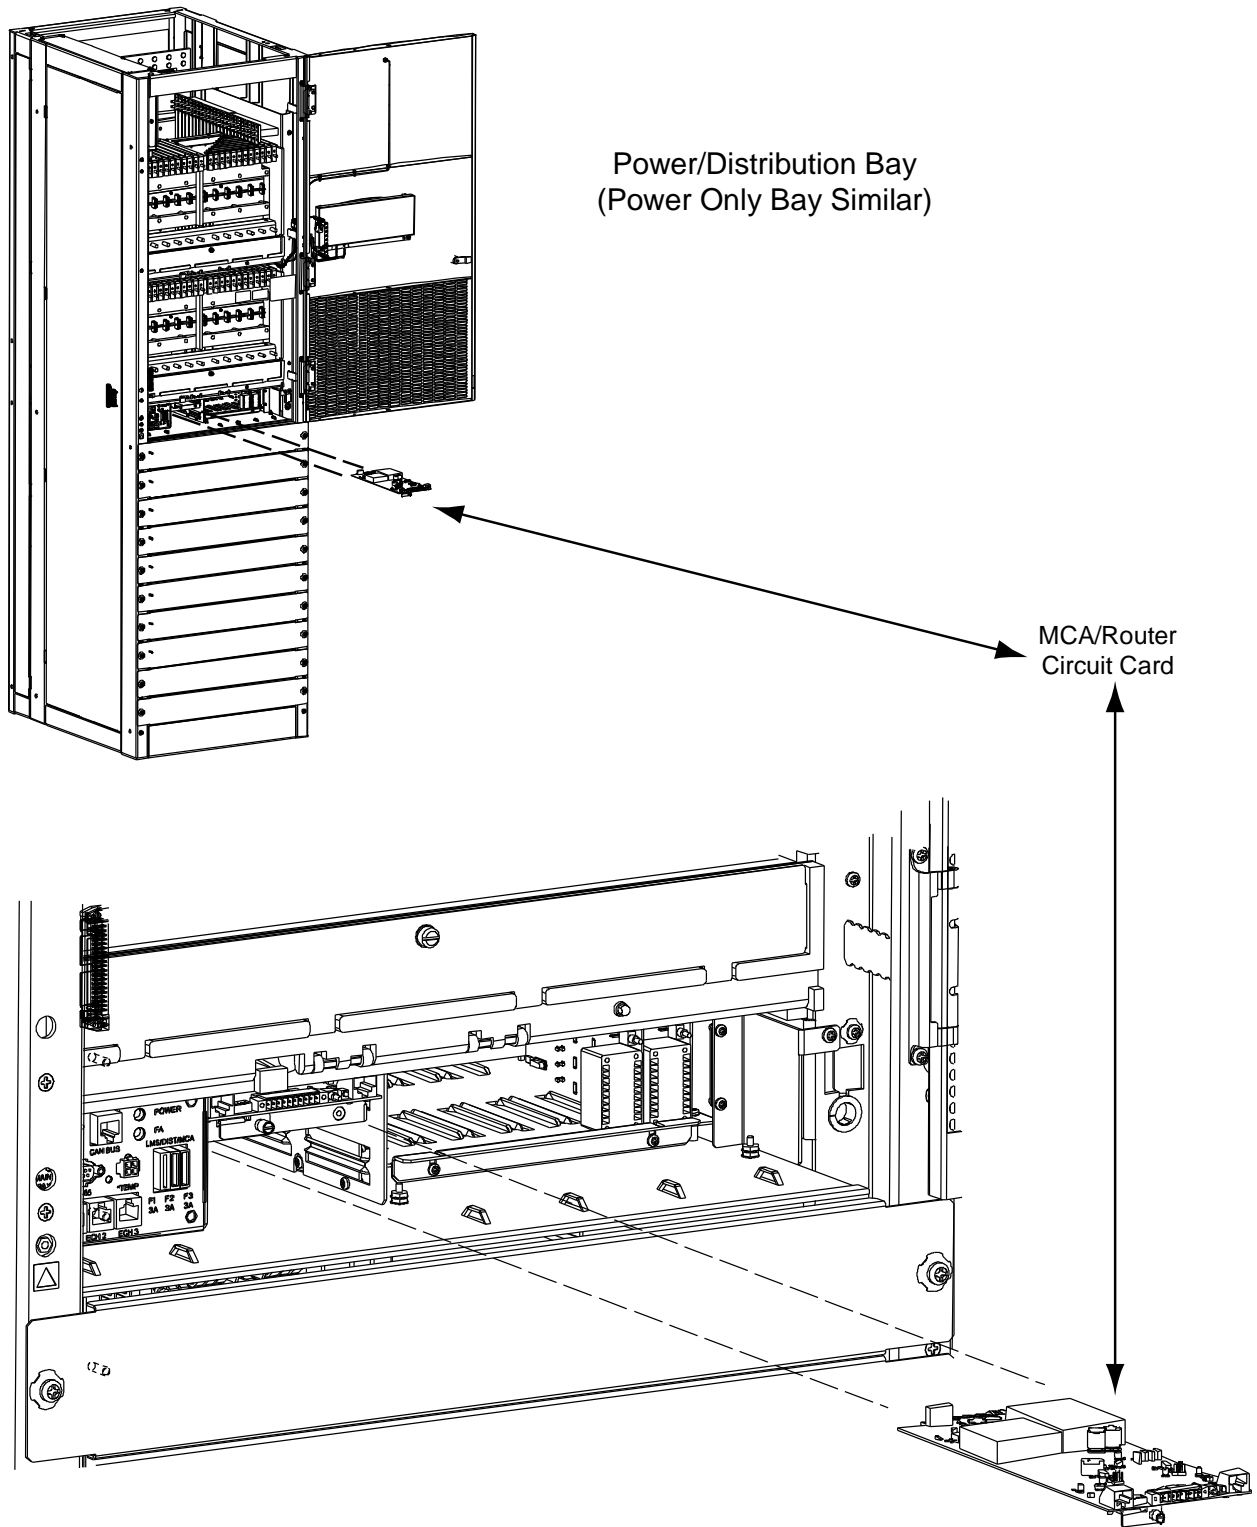
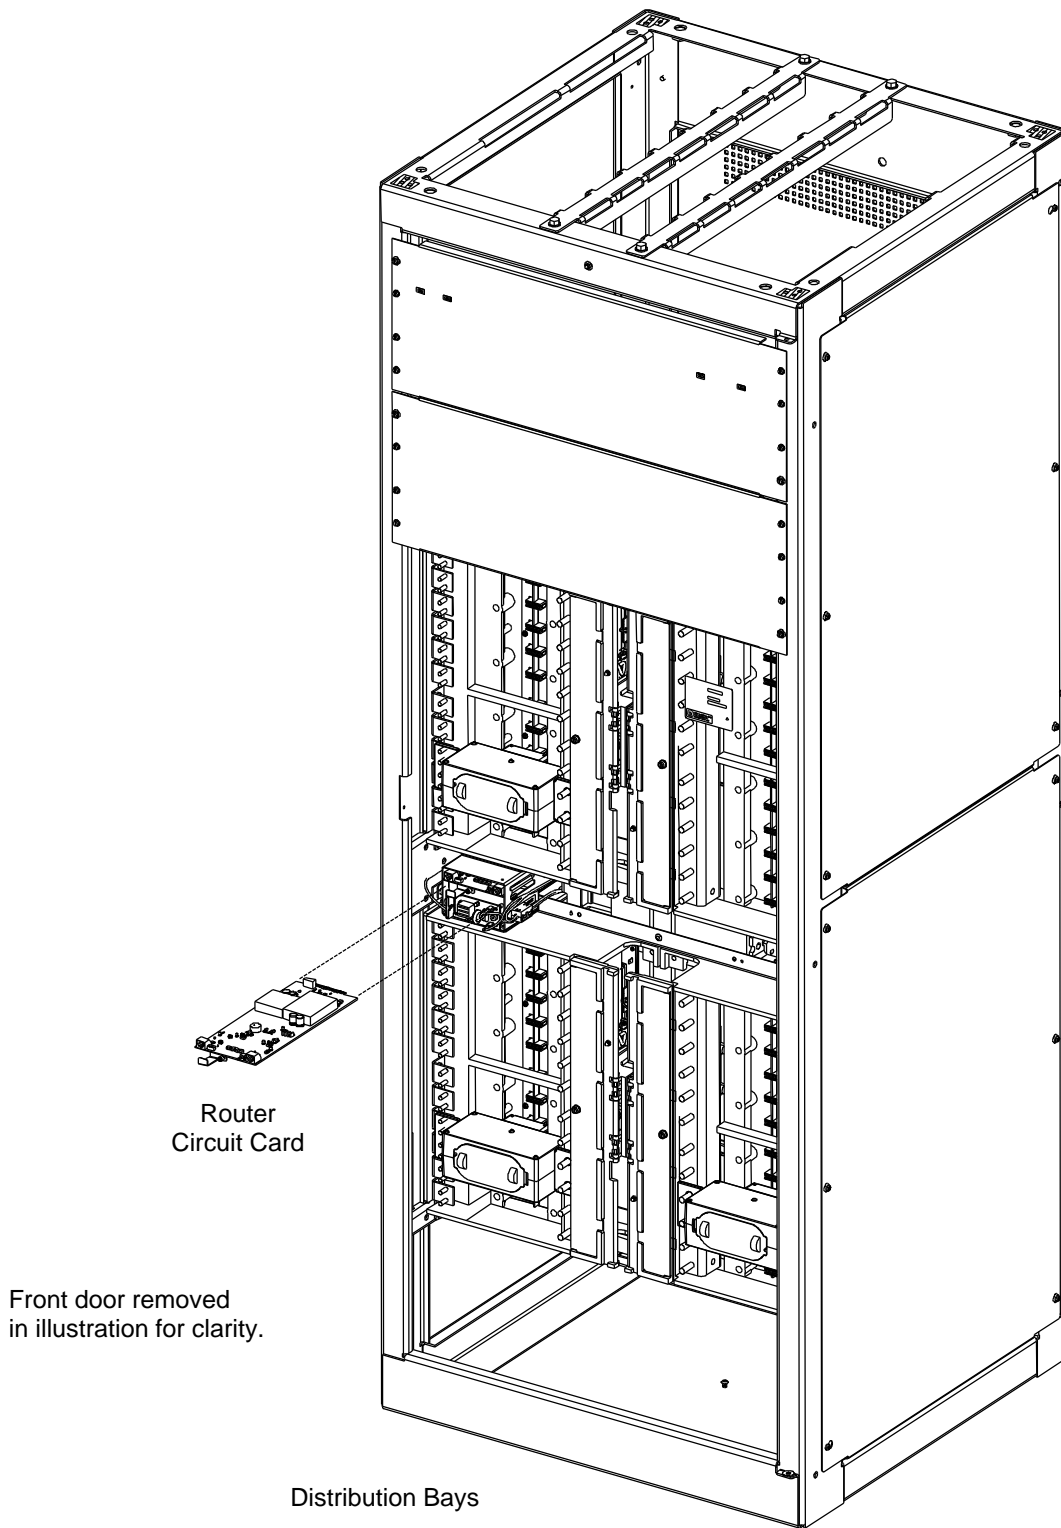

Figure 6-2
Figure 6-3
**Note:** Refer to Figure 6-2 as this procedure is performed.
**Note:** Refer to Figure 6-2 and Figure 6-3 as this procedure is performed.